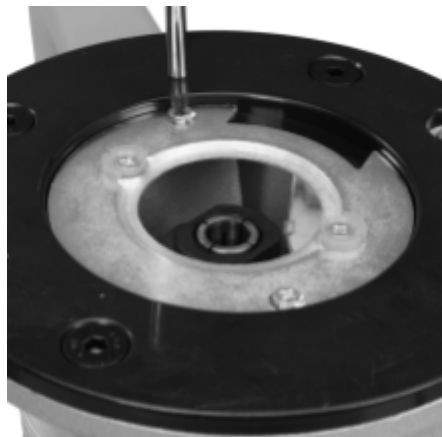

Figure 5
1. **Invert the Router:** Carefully invert the router and rest it on the flat motor vents (5) so that the baseplate (19) faces upwards (**Figure 5**).
2. **Remove Fixing Screws:** Unscrew the two guide bush mounting plate fixing screws (26).
3. **Remove Mounting Plate:** Remove the guide bush mounting plate (27).